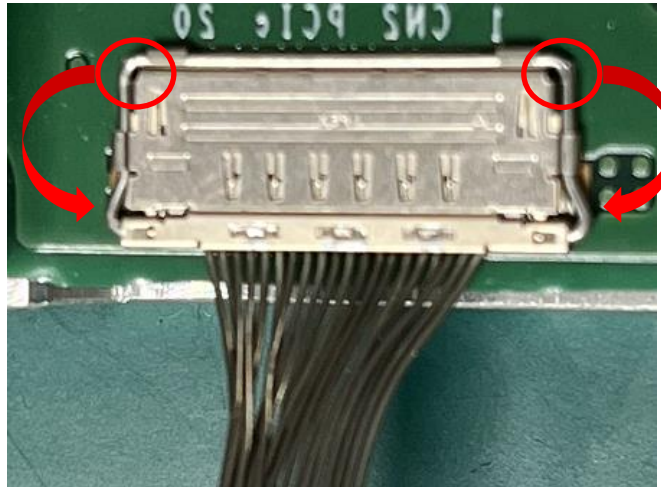

Figure 4-9 Unlocking cable connectors for data interfaces
- ① Pull the red circle in Figure 4-9 to the side opposite to the board side of this product to unlock the receptacle connector and rotate the lock bar. When unlocking, do not